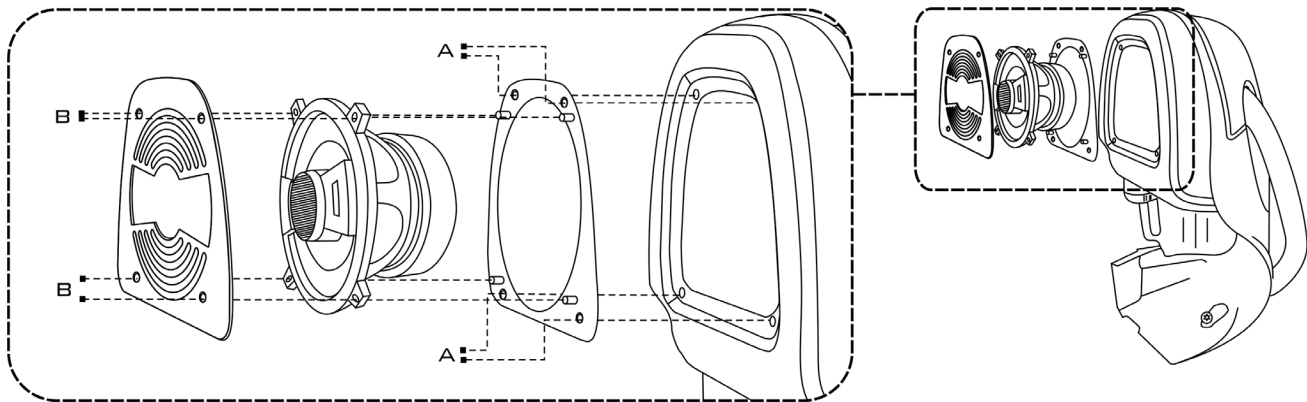

FIGURE 1.2
9. PLACE THE SPEAKER ADAPTER BRACKET ON THE GLOVE BOX WITH THE MOUNTING POSTS FACING OUTWARD AS SHOWN IN FIGURE 1.2, AND FASTEN USING THE SUPPLIED HARDWARE (A).